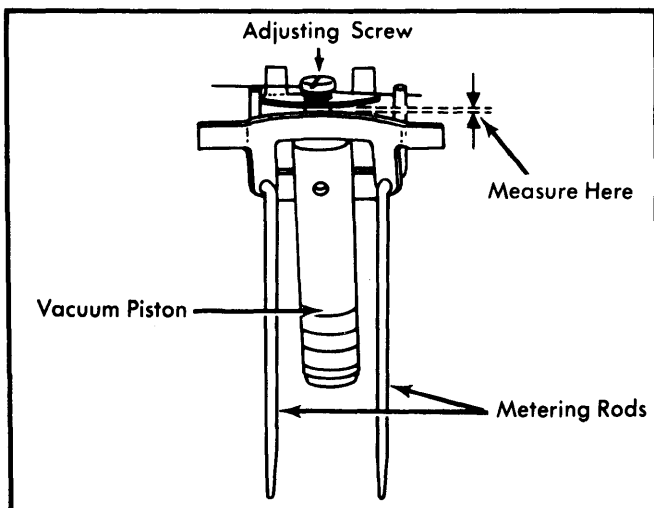

Fig. 3 Vacuum Step-Up Piston Gap Qualification
- 1) Remove step-up piston cover plate and gasket. Remove lifter lock screw and remove piston. See Fig. 3.